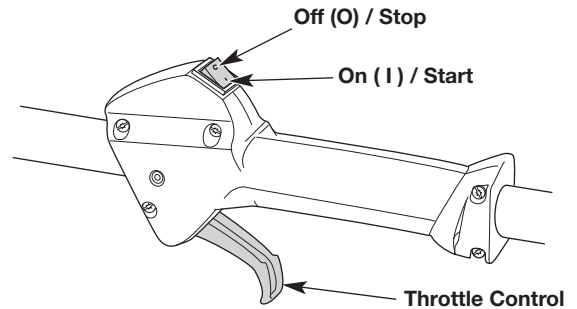
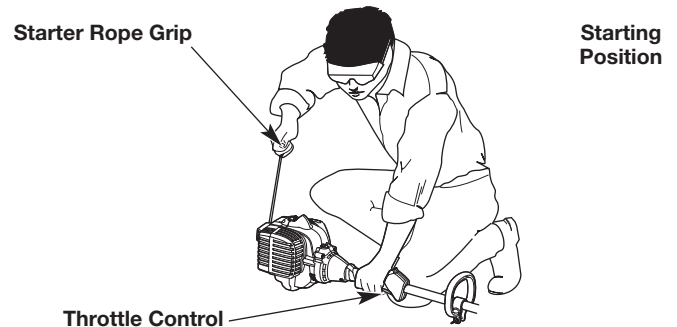

Fig. 8
Fig. 10
WARNING: Avoid accidentally starting the unit. To avoid serious injury, the operator and the unit must be in a stable position when pulling the starter rope (Fig. 10).
NOTE: There is no need to turn the unit on. The On/Off switch is in the ON (1) position at all times (Fig. 8).
5. Crouch in the starting position (Fig. 10).
6. Squeeze the throttle control (Fig. 8) and pull the starter rope with a controlled and steady motion **5 times** (Fig. 10).
- NOTE:** There is no need to turn the unit on. The On/Off switch is in the ON (I) position at all times (Fig. 8).
7. Squeeze and hold the throttle control (Fig. 8). Run the electric start accessory for 2 seconds.
2. Press and hold the On/Off switch in the OFF (O) position until the engine comes to a complete stop (Fig. 8).